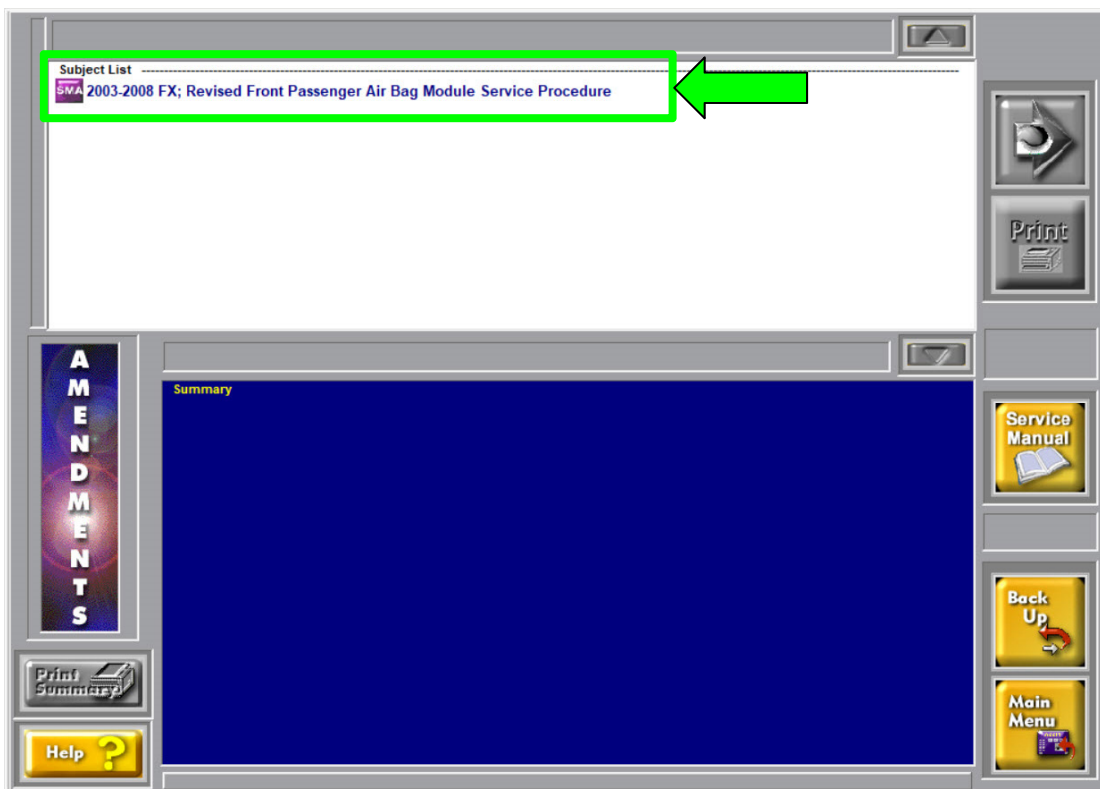

Figure 19
- On the next screen, select "SMA 2003-2008 FX; Revised Front Passenger Air Bag Module Service Procedure" (Figure 19).